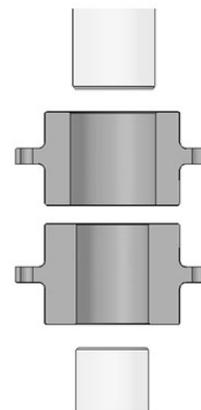

Fig 5.2
- Insert each hub (1, 8) into its corresponding shaft. (See fig. 5.2)